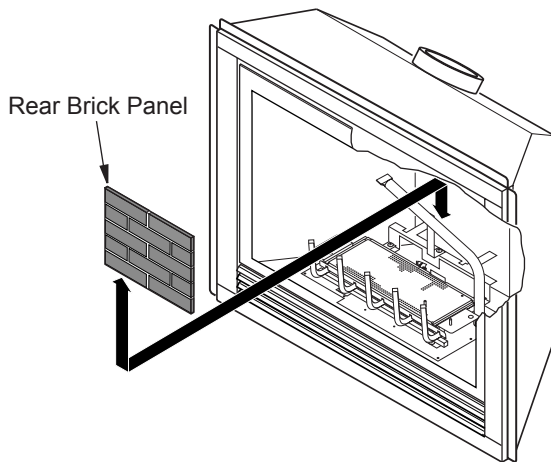

Figure 42 - Installing Rear Brick Panel
5. Install rear brick panel first. Rest bottom edge of panel on back edge of grate (see Figure 42).